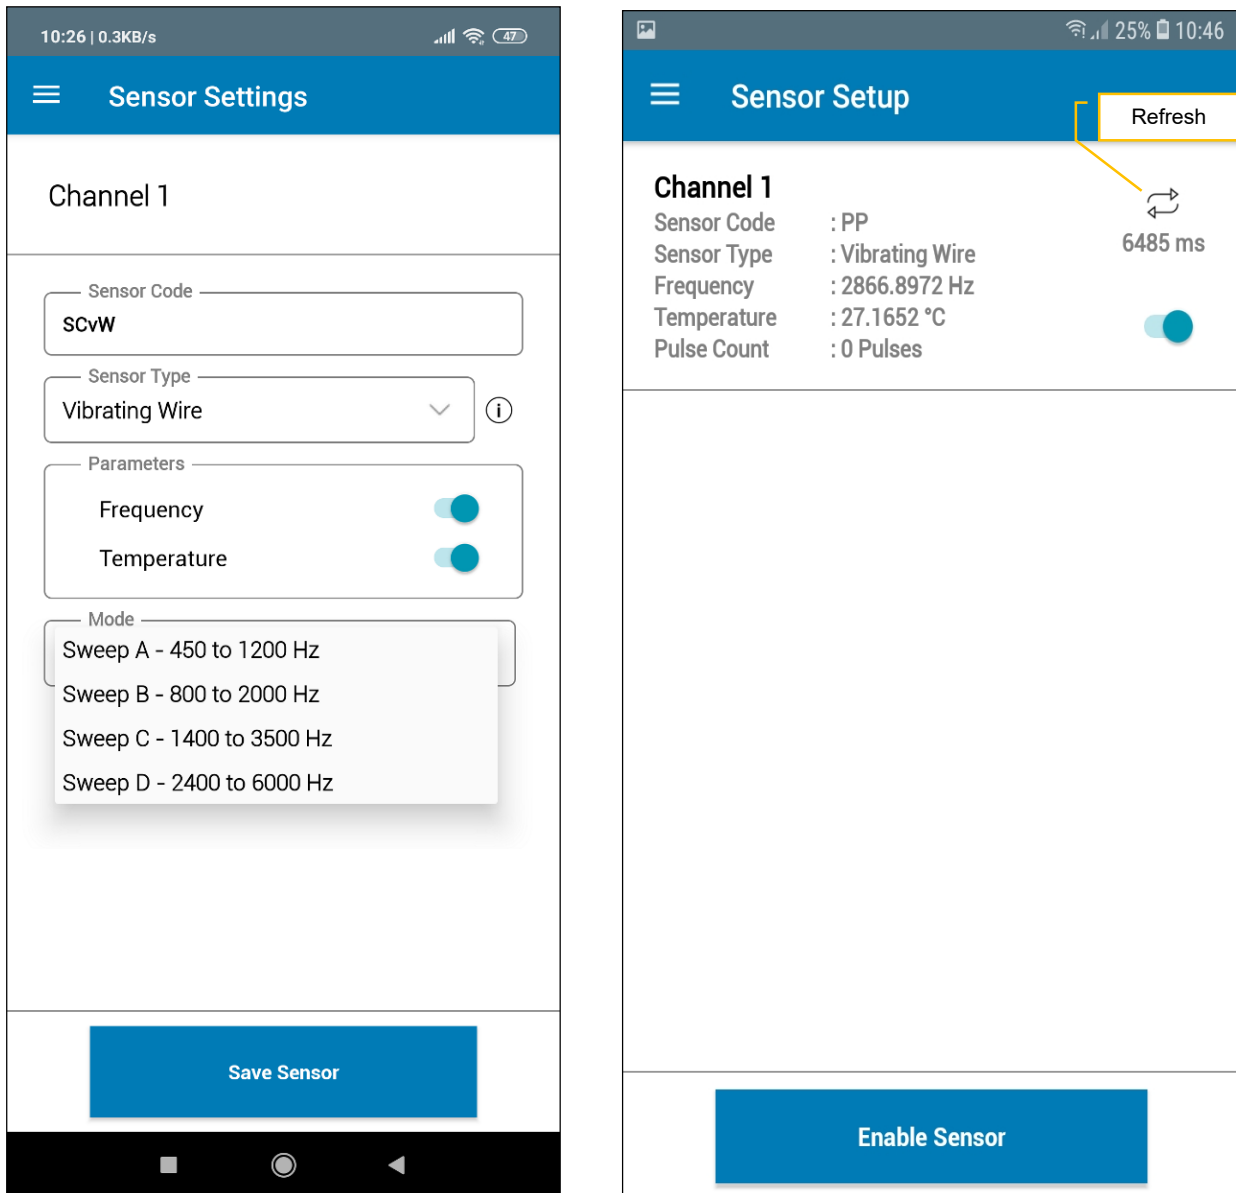

Figure 5-8
- Sensor setting can be made as follows (shown in the left side screen in figure 5-8):
- Click on 'Save Sensor'. The Node will now read the configured sensor, displaying the sensor readings, as shown in right side screenshot in figure 5-8.
- To get another reading, click on the refresh button (shown in the right side screenshot in figure 5-8).